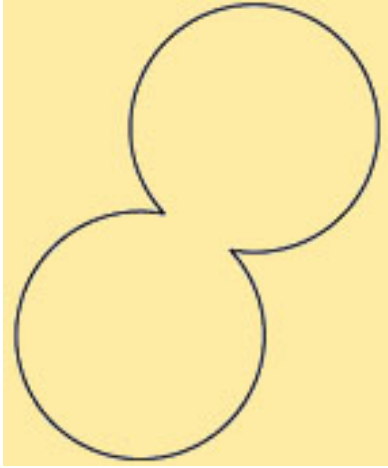
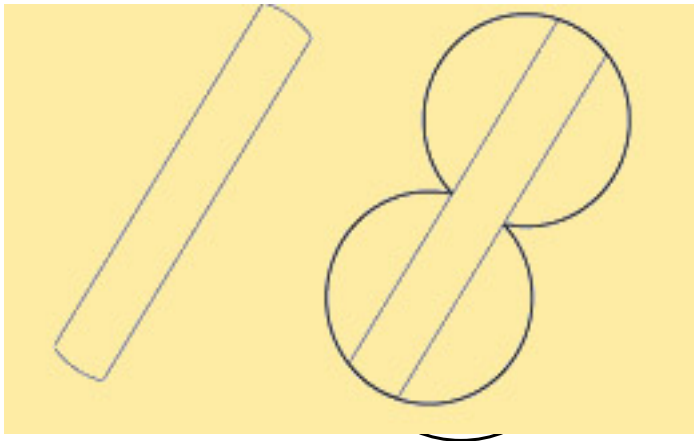

Figure 11: Schematic Wulff plot
Figure 18: Wulff plot and equilibrium shape
1. Given the following Wulff plots (Figures. 11, 12, 13, and, 14), draw the corresponding equilibrium shapes of the crystals.
1. Given the Wulff plots (Figures. 11, 12, 13, and, 14), here are the corresponding equilibrium shapes (Figures. 18, 19, 20, and, 21).